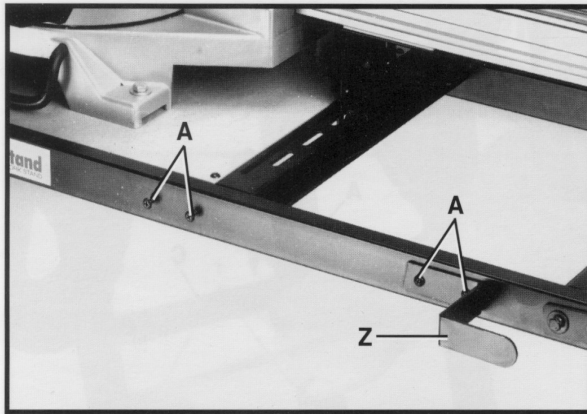
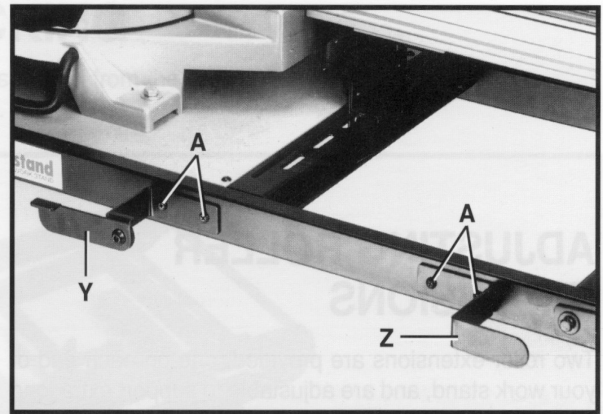

Fig. 19
Fig. 20
17. Assemble right cord wrap bracket (Z) Fig. 19, to the rear of the work stand as shown using two 16mm long self-tapping screws (A).
18. **NOTE:** Before assembling the left cord wrap bracket to the rear of the work stand and to make assembly easier, start the remaining two 16mm long self-tapping screws (A) Fig. 19, into the two holes at the back of the work stand to create a threaded hole. Back the screws (A) Fig. 19, out of the holes and assemble the left cord wrap bracket (Y) Fig. 20, to the work stand using the same two screws (A).